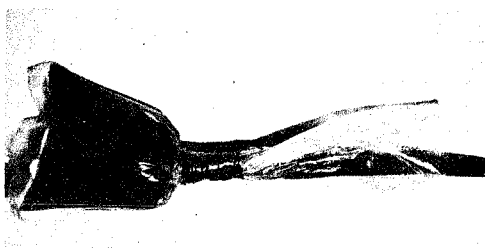

Fig. 10 — Encapsulated Wires
6.09 Once the air bubbles have been removed simply twist the remainder of the plastic bag around the encapsulated wires and tape tightly with vinyl tape. Fig. 10.